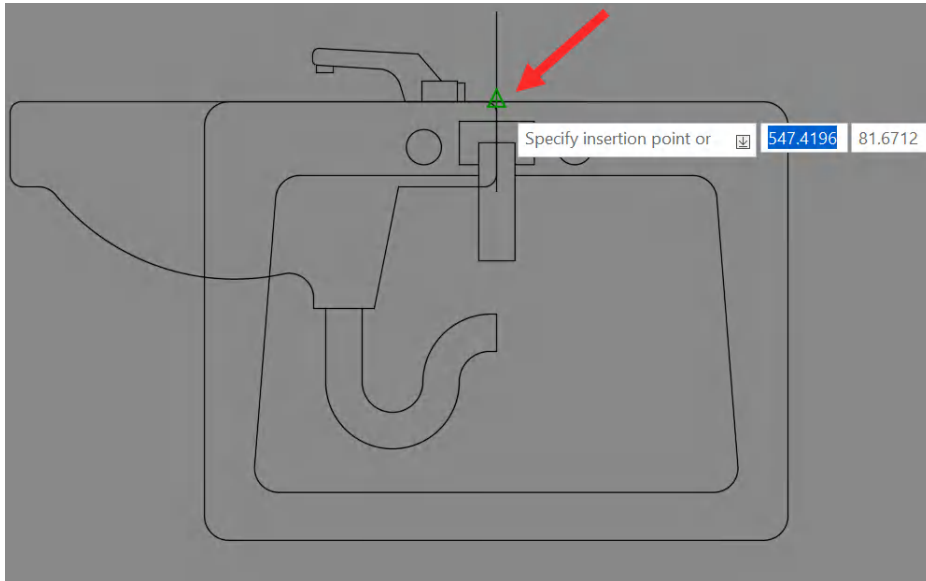

Figure 12.18: The Midpoint object snap on the Washbasin\_TOP block
7. At the **Specify insertion point** prompt, select the **Midpoint** object snap on the already inserted **Washbasin\_TOP** block, as shown in *Figure 12.18*. This will insert the **Washbasin\_SIDE** block.